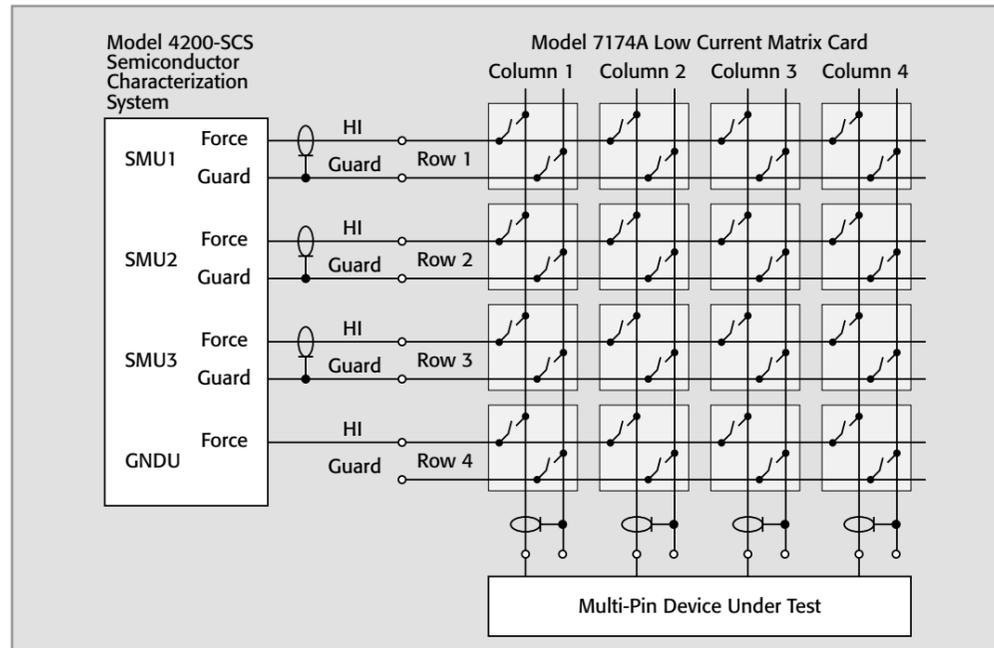

Figure 15. Using the Model 4200-SCS to test a multipin device
**Figure 15** shows three SMUs from the Model 4200-SCS Semiconductor Characterization System connected through a two-pole matrix (Model 7174A Low Current Matrix Card) to a multipin device. Notice that the FORCE terminal of each SMU is connected to the HI terminal of the switch and the Guard of the SMU is connected to the Guard terminal of the switch. In this example, guarding becomes important to avoid leakage currents because the FORCE terminal of the SMU is at the test potential. With the guard terminal at the same potential, the leakage current through the switch is minimized. Guarding will also speed up the response time. The ground terminal (GNDU) of the Model 4200-SCS is connected to a single *row* of the matrix.